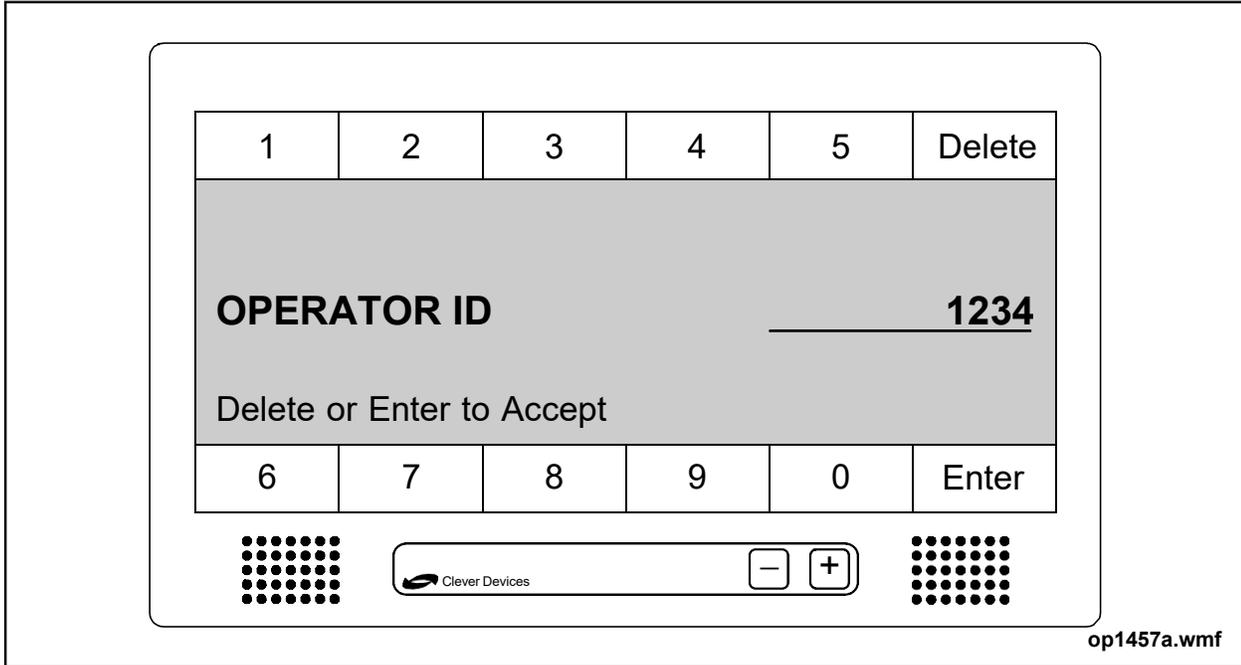

Figure 20: Operator ID Entry Screen
- Press the <Logon> softkey. The ID Entry screen will appear. See “Figure 20: Operator ID Entry Screen” on page 54.